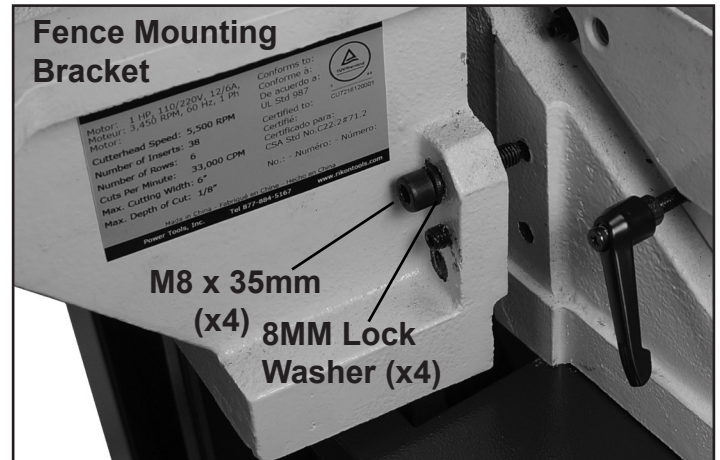

FIG. 8
2. Attach the Fence Mounting Bracket to the rear of the jointer body by using the four M8 x 35mm Allen bolts and four 8mm lock washers. FIG. 8.